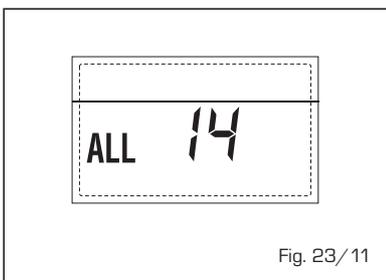

Fig. 23/11
**- ANOMALÍA DEL VENTILADOR "ALL 15" (fig. 23/12)**